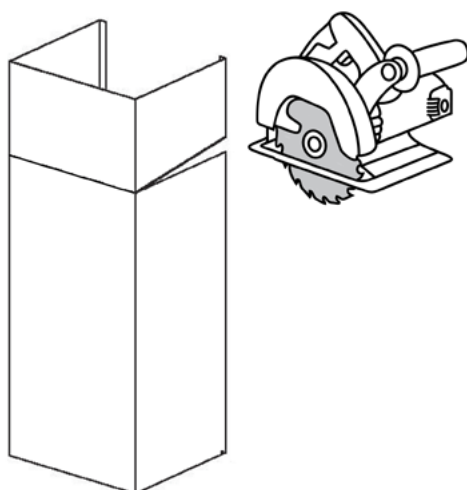

Figure 5
8. Have a trained professional cut your one-piece designer chimney to the desired length; you must leave a 2 1/4" (57 mm) gap between the chimney and ceiling in order to install the crown molding, which will hide any jagged cuts and offer a seamless transition to the ceiling. *Figure 5*